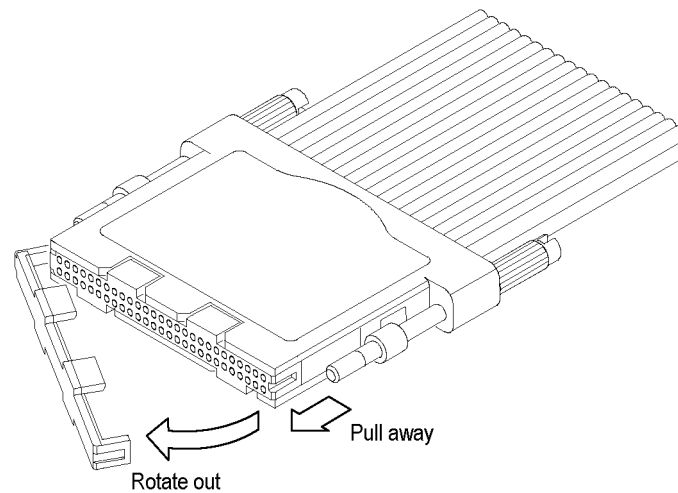

Figure 24: Replacing the cLGA clip
1. Gently pull one side of the clip away from the probe head and then remove the entire clip. (See Figure 24.)